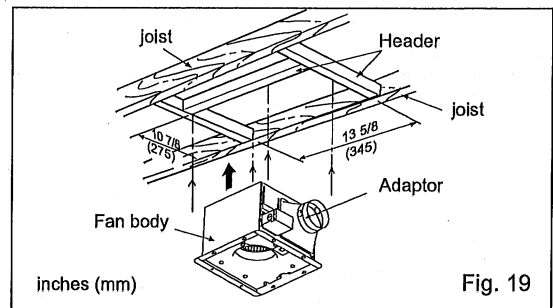
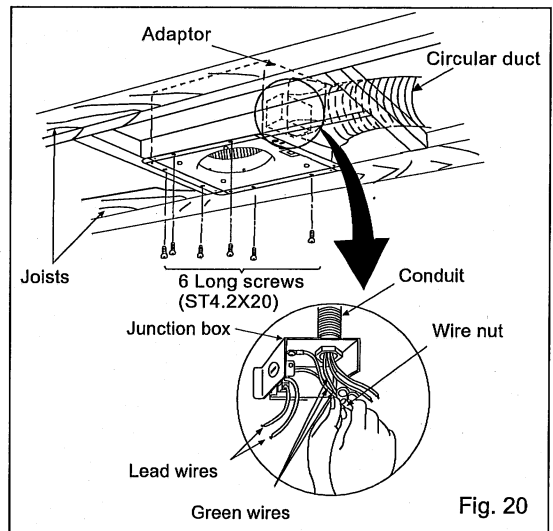

Fig. 19
Fig. 20
3. Install the fan body and secure it by using long screws (ST4.2X20). (Fig.19, Fig.20)